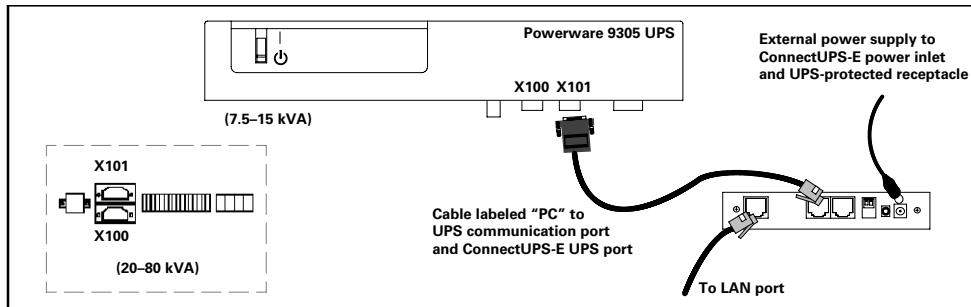

Figure 4. Alternate Installation with a Powerware 9305 UPS
- 4.** If the X100 port is not available, use the supplied serial cable (labeled "PC") to connect the UPS port on the ConnectUPS-E to the male, 9-pin, RS-232 port (labeled X101) on the UPS (see Figure 4).